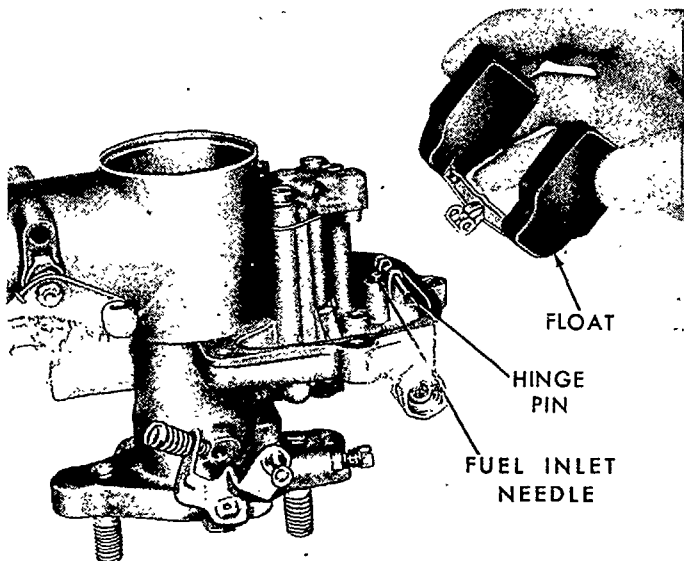

Figure 9
4. Remove the hinge pin and float assembly, Figure 9. The hinge pin is held in place by a baffle in the fuel bowl. When the fuel bowl is removed, the pin is free to be removed.
5. Remove the fuel inlet needle, Figure 9.